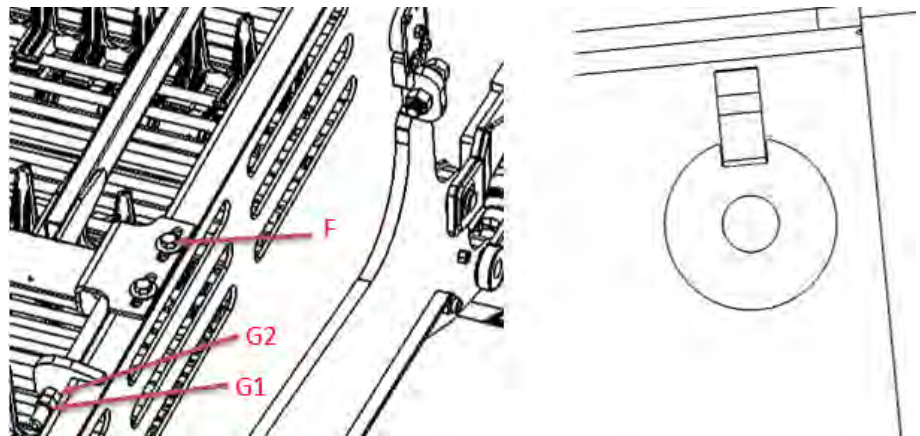

Figure 7-5: Tension System and Hole Line Up
1. Loosen four ½” nuts and bolts (F), two on each side of the elevator and loosen the end 5/8” nuts (G1) on both sides of the elevator.
2. Use the second 5/8” nut(G2) to line up the holes as shown in Figure 7-5 by either tightening the nut to draw the upper section of the elevator up or loosen to drop it down.